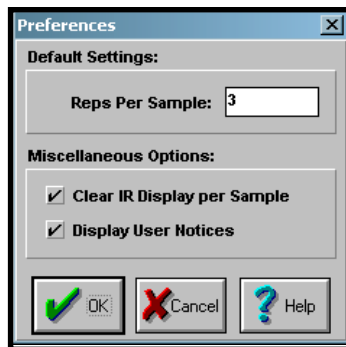

Figure 4.4. Preferences Screen
1. From the Status Screen, go to the **Setup** menu and select **Preferences**. This will access the Preferences Screen (Figure 4.4).